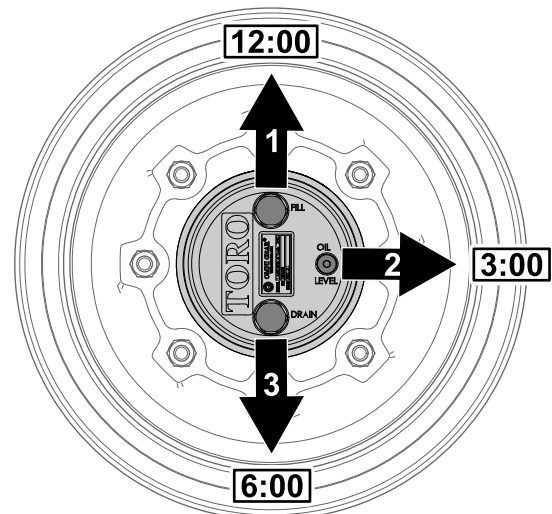

Figure 80
1. Park the machine on level surface, position the wheel so that the fill plug is at the 12 o'clock position, the check plug is at 3 o'clock position, and the drain plug is at the 6 o'clock position (Figure 80).
2. Remove the check plug at the 3 o'clock position (Figure 80).
1. Park the machine on level surface, position the wheel so that the fill plug is at the 12 o'clock position, the check plug is at 3 o'clock position, and the drain plug is at the 6 o'clock position; refer to Figure 80 in Checking the Planetary Gear-Drive Lubricant (page 53).